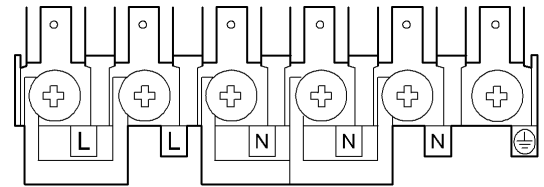

Fig.5.
- Make connection as shown in Fig 5 by proceeding as follows:-
- Clamp bare wires into the relevant terminal (Fig. 5.) and check they are held by tugging each one in turn.
AS SHOWN IN Fig.5.**